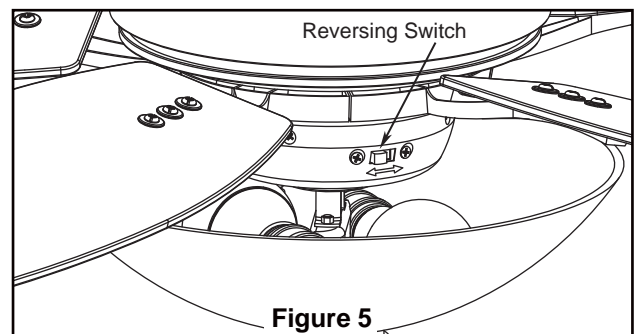

Figure 5
5. Insert light bulbs into sockets. (Figure 5)
- 5. If airflow is desired in the opposite direction, turn the fan off and wait for the blades to stop turning. Then slide the reverse switch to the opposite position and turn fan on again. (Figure 5)